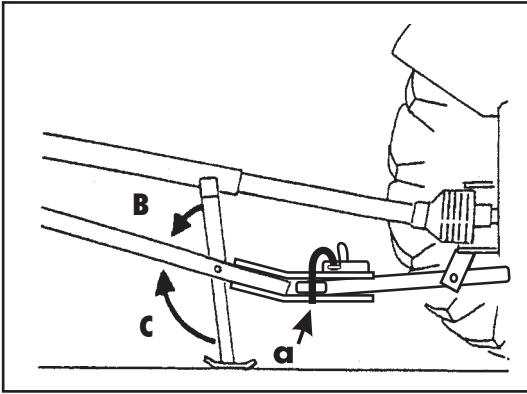

fig 3.1
- Hitch the rotary tedder to the fixed towbar (fig. 3.1) or to the swinging drawbar (fig. 3.2) of the tractor.